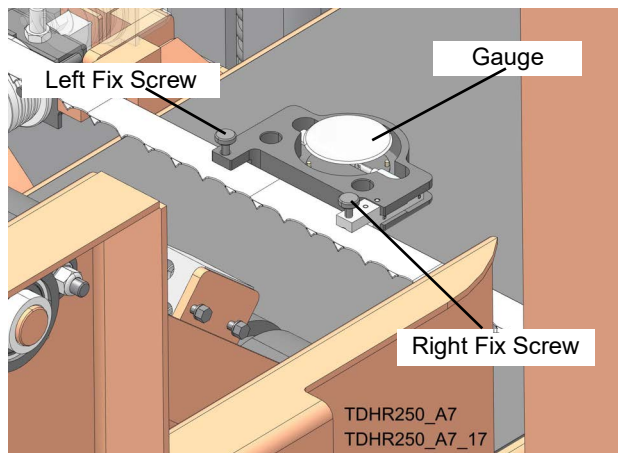

FIG. 3-13
1. Fit blade tension gauge (WMBTG) onto sawblade. See FIG. 3-13